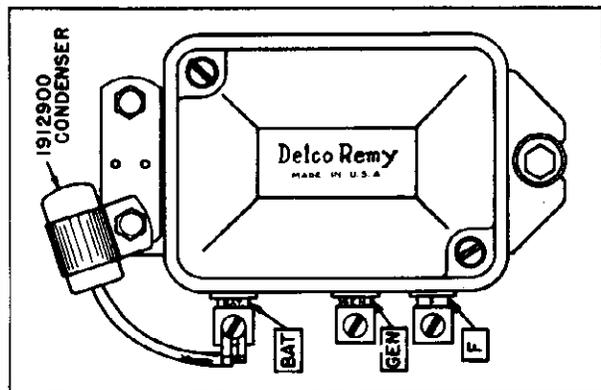

Figure 61
5. Install voltage regulator condenser on voltage regulator. (See Figure 61.)